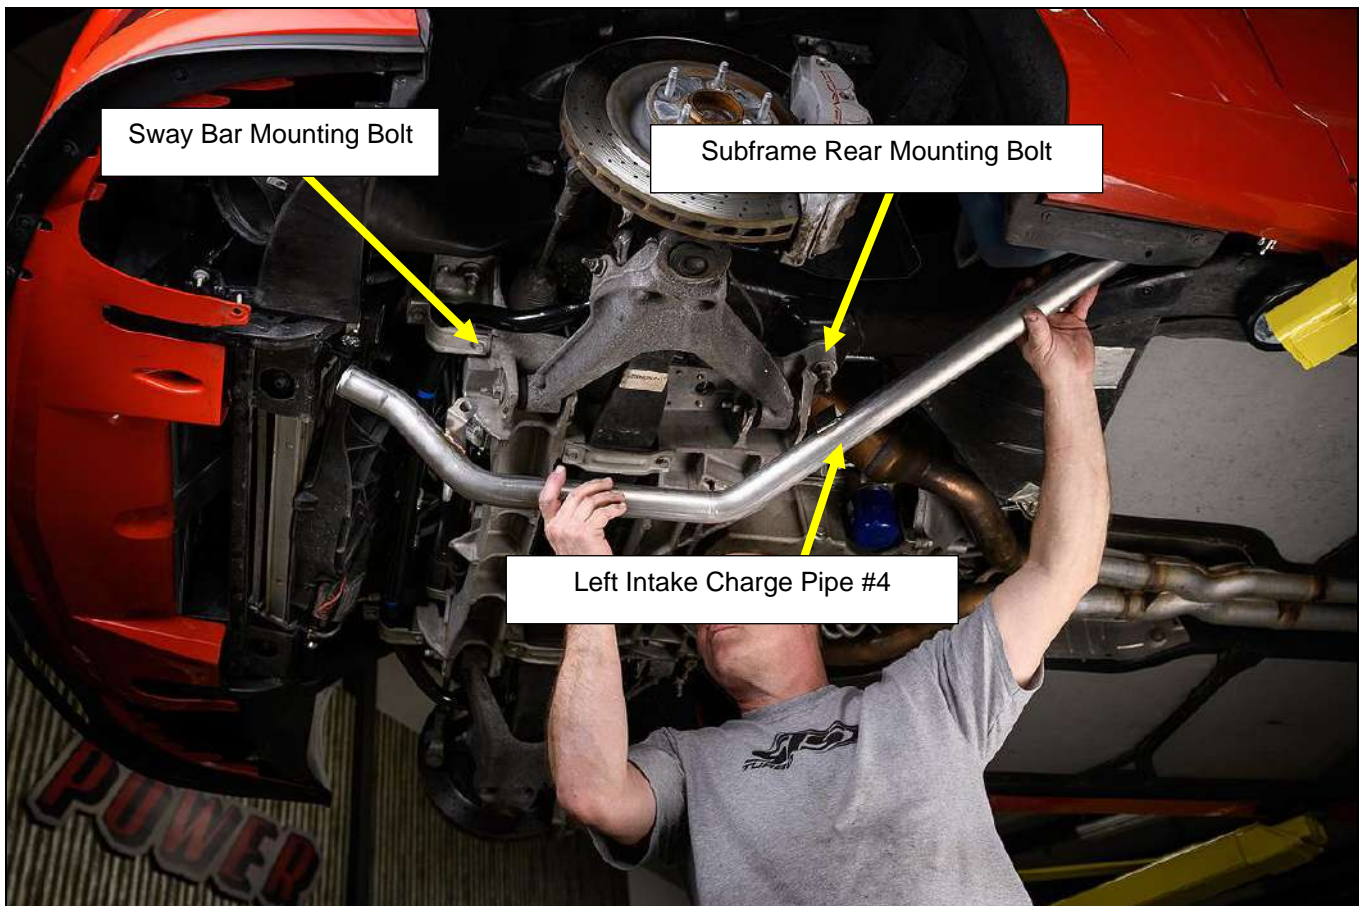

Figure 65
16. Remove the 21mm nut at the subframe rear mounting bolt and driver's side sway bar mounting bolt (**Figure 65**).